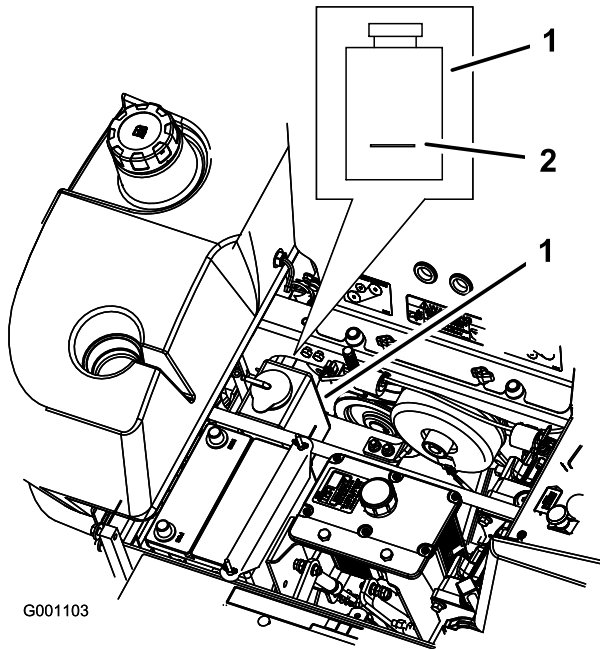

Figure 59
3. With the engine cool, check the overflow bottle level. The fluid needs to be up to the bump on the outside of the overflow bottle (Figure 59).
4. If the coolant level is low, add a 50/50 mix of extended life antifreeze/Dex-Cool® and water to the overflow bottle (Figure 59).
5. Add the 50/50 coolant mix to the overflow bottle and fill it to the indicator line on the bottle (Figure 59).